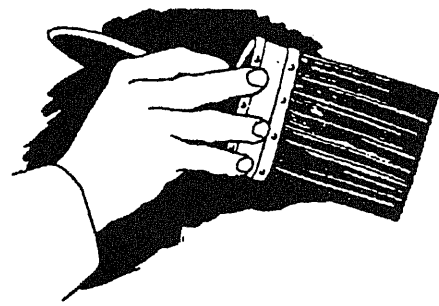

Figure 17-4.—Correct way to hold a brush.
1. Grip the brush firmly, but lightly, as shown in figure 17-4. Do not put your fingers on the bristles below the metal band (ferrule). The grip shown permits easy wrist and arm motion. To hold it otherwise restricts your movements and causes undue fatigue.